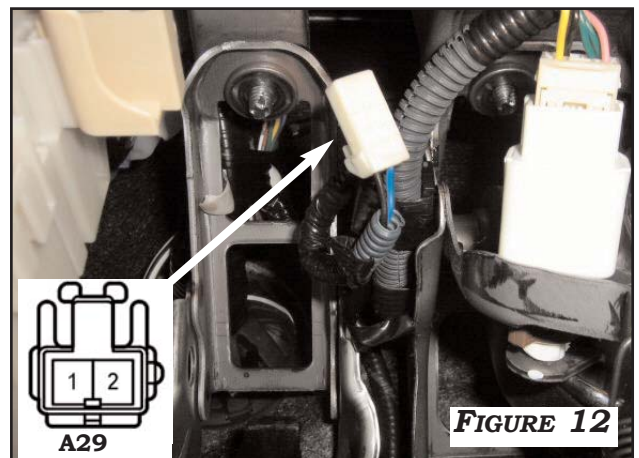

FIGURE 12
2. FOR MANUAL TRANSMISSION YARIS ONLY: LOCATE CONNECTOR **A29** OR (**A67** FOR 12 YARIS HB) BETWEEN THE JUNCTION BOX AND BRAKE SWITCH. **FIGURE 12.** **NOTE: IF CONNECTOR IS NOT PRESENT, GO TO NEXT PAGE.** CONNECT ONE OF THE TWO **VIOLET WIRES** FROM THE CLUTCH DISENGAGEMENT SWITCH TO THE **BLACK** WIRE IN **PIN 1** OF CONNECTOR **A29**. CONNECT THE OTHER **VIOLET WIRE** TO THE **BLUE** OR **RED** WIRE IN **PIN 2** OF CONNECTOR **A29**. SECURE CLUTCH SWITCH HARNESS WITH WIRE TIES.